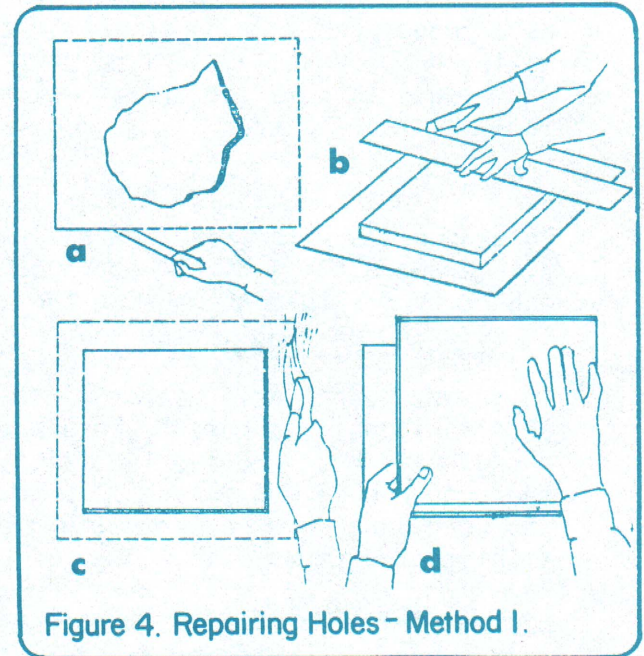

Figure 4. Repairing Holes - Method I.
(1) The first method, Figure 4.